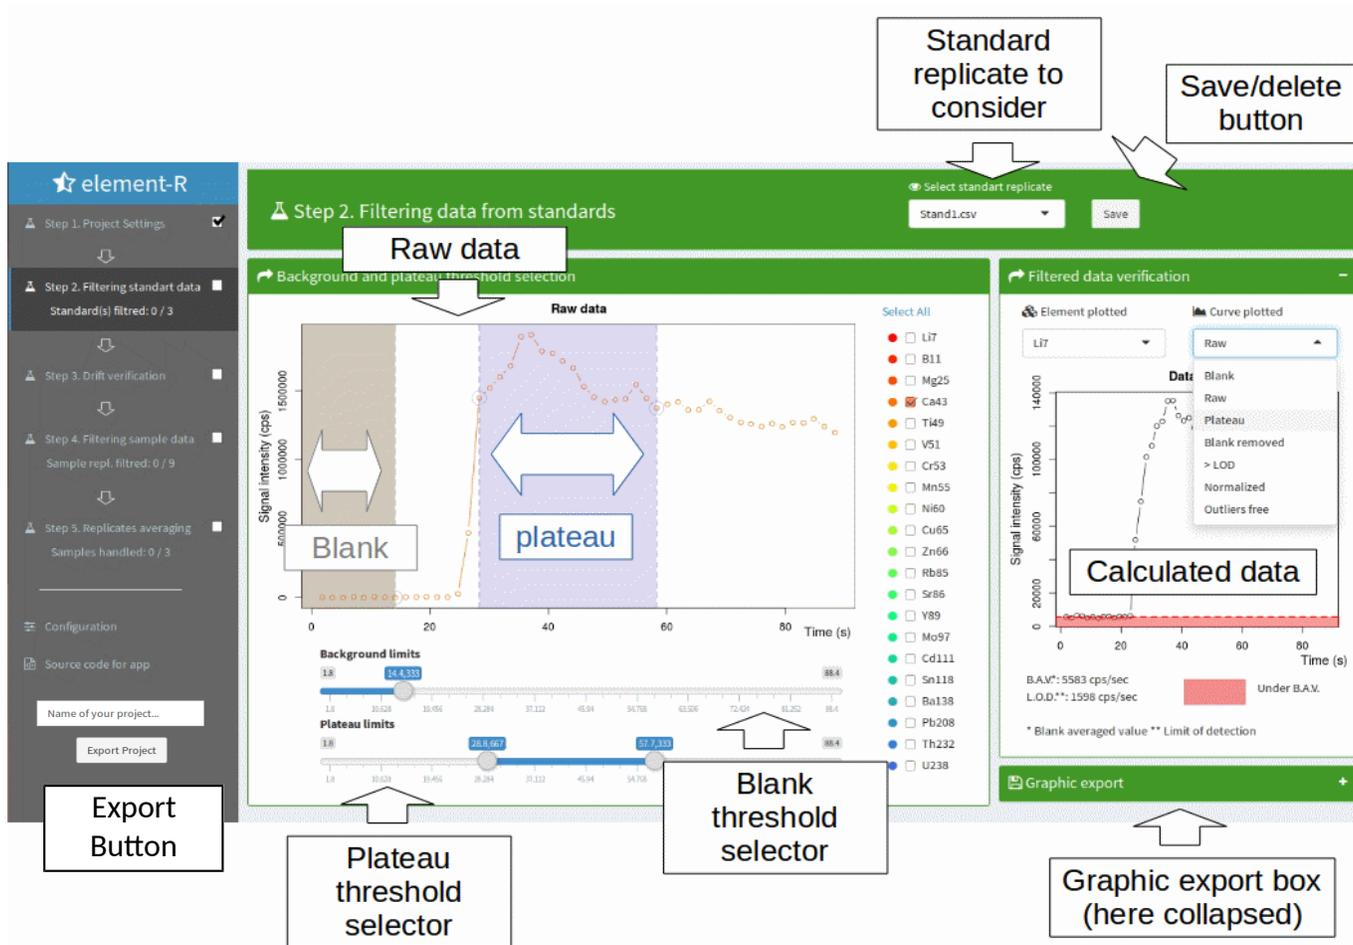

Figure 5: Standard filtration tab functionalities
To this aim, you must first select the standard replicate to filter (Fig. 5).
Once the replicate is chosen, raw and reduced data of the considered replicate appear in two boxes (Fig. 5). The left box allows you to select the background (blank) and plateau thresholds using the slide selectors below the plot. The right box plots calculate the data in order to check the validity of your selected thresholds (i.e. reduced and intermediate data, see below).
- The entire project and its settings in an .Rdata file. This file is the one to load for re-opening an existing project (see step 1 and Fig.5)